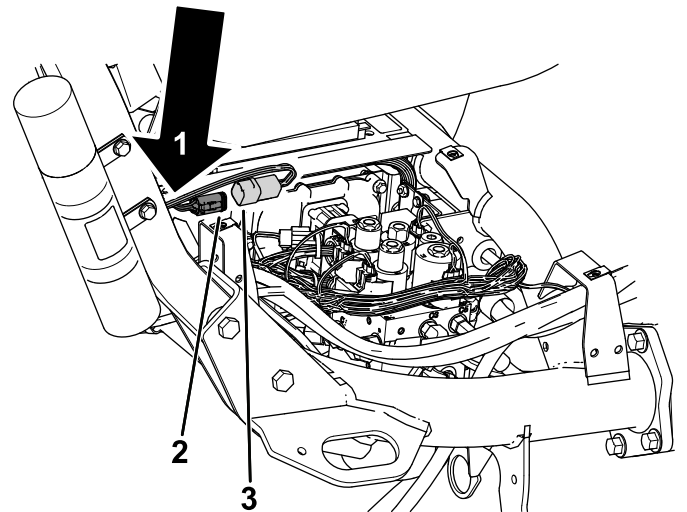

Figure 11
5. Route the wire harness down the roll bar and connect the wire-harness connector labeled P01 to the connector on the machine wire harness labeled P49 (Figure 11).
6. Secure the telematics harness to the main harness with a cable tie (Figure 11).